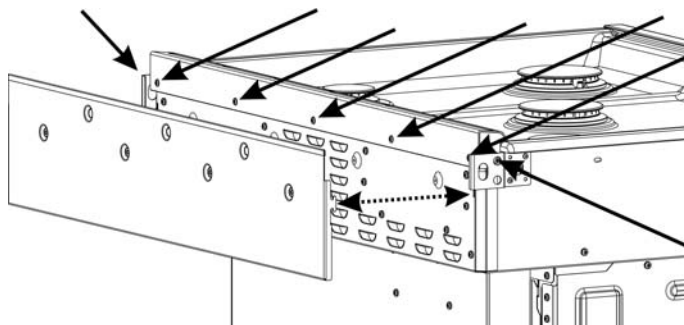

Figure 2: Trim screw locations (louver cover removed)
5. Lift the louver cover out of the slots holding it in place (see Figure 2). Note the slot locations for later.
7. Remove the screws holding the trim (five screws on the back and one screw on each end)(see Figure 2). Save these screws for installation of the Low Backguard.
12. Hold the Low Backguard in a vertical position while installing and tightening the five screws in the back (see Figure 2).